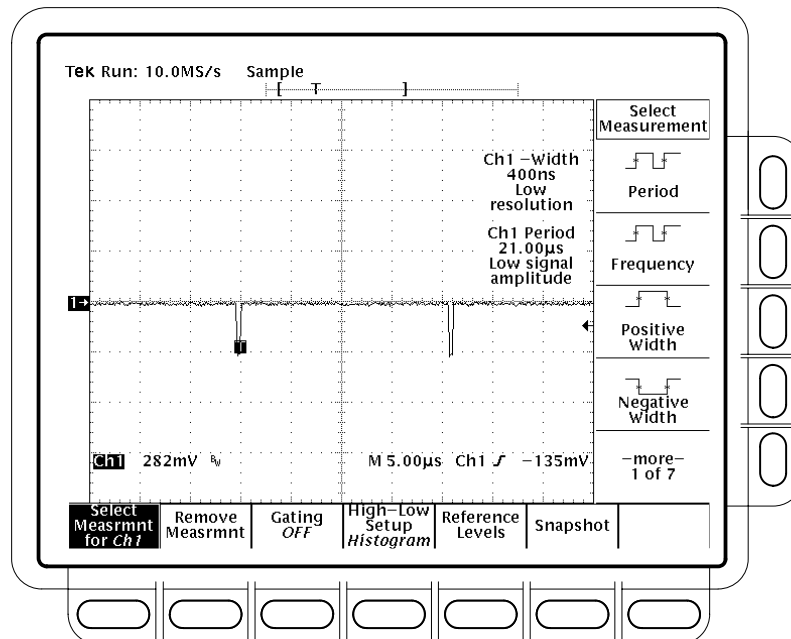

Figure 4-40: Sync duty cycle test: critically adjusted pulse
- Turn the pulse generator **PERIOD** variable control to adjust the period until the oscilloscope **CH1 Period** measurement reads **21.000μs -25/+50 ns**. See Figure 4-40. Read note shown below.